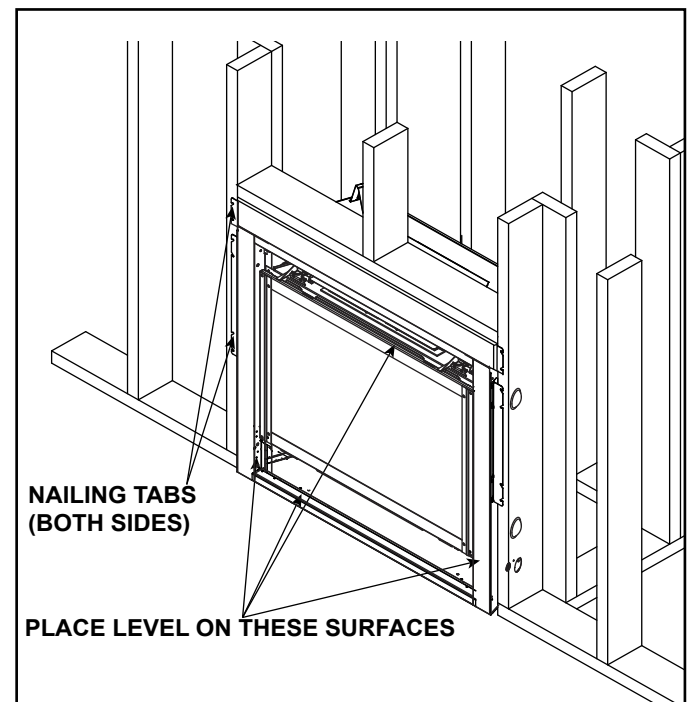

Figure 6.18 Proper Positioning and Securing of an Appliance
The diagram shows how to properly position and secure the appliance. See Figure 6.18. Nailing tabs are provided to secure the appliance to the framing members.
- Place a level on top, sides and bottom as shown in Figure 6.18.